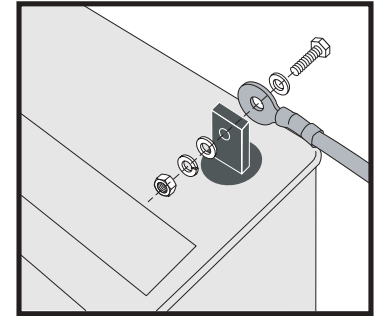

Figure 13B. Cable To Terminal Connection
**NOTE: See figure 13B for correct hardware placement for battery terminal connections.**